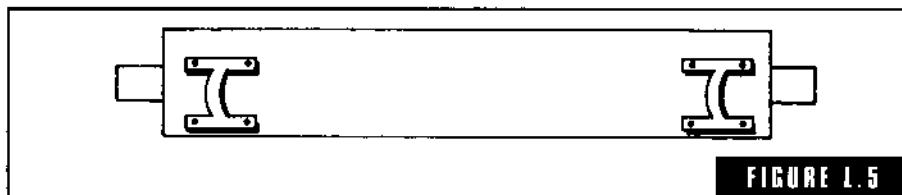

FIGURE L.5
**lifting hook (flasks)** See also *grab hook*. A hook or pad eye attached to a large flask for lifting or rolling over (Fig. L-5). A flask trunnion is sometimes called an *open lifting hook*.